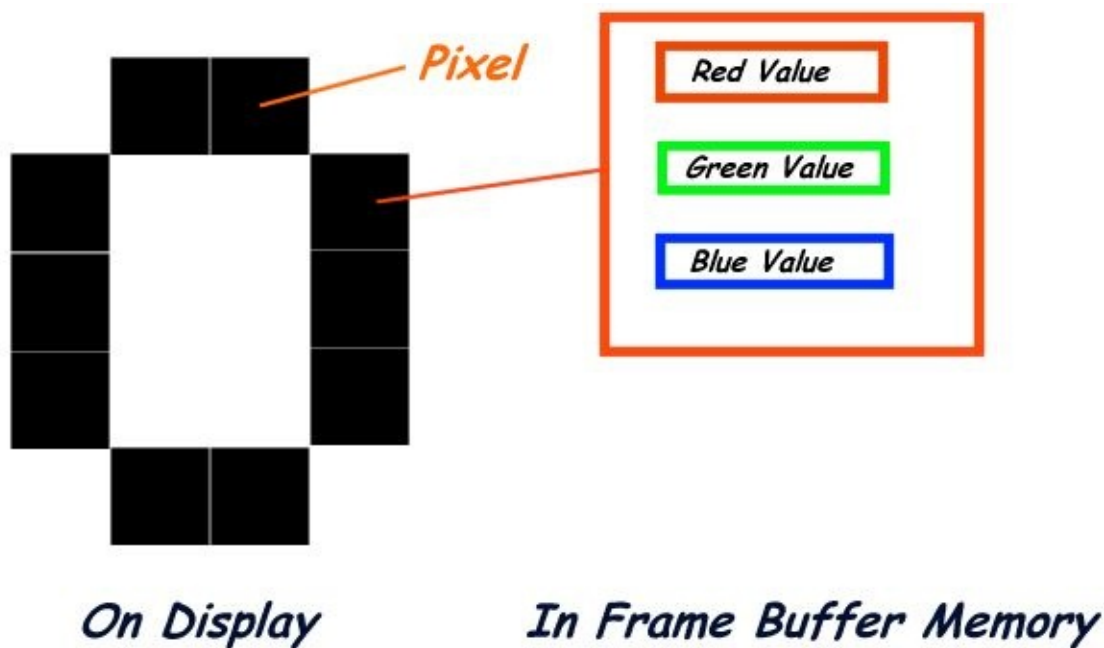

Figure 1-7.
- **RGB** – RGB is an image encoding method and is discussed in more detail later in this book. The pixels that make up a digital image must be represented internally in an image format and RGB is one of the available image formats used to represent these pixels. In the RGB image format each pixel contains a red, green, and blue component. The red, green, and blue components are added to get a final color. The red, green, and blue components set at the highest setting add up to white light. The red, green, and blue components set to the lowest setting represent the color black. See Figure 1-7.